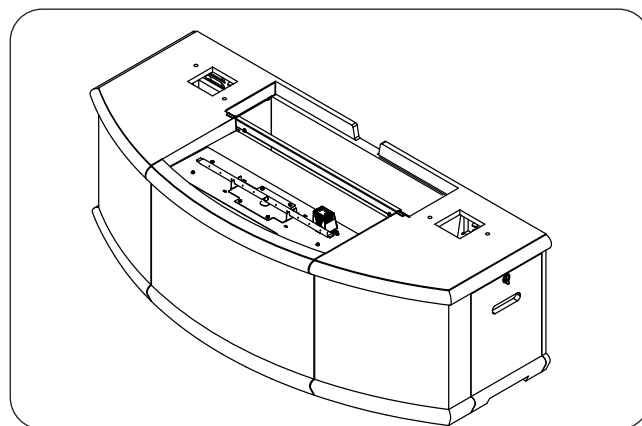

Fig. 24-1 Place hearth
1. **Carefully** place the hearth piece in an appropriate location (refer back to the LOCATION section if needed). See Fig. 24-1.